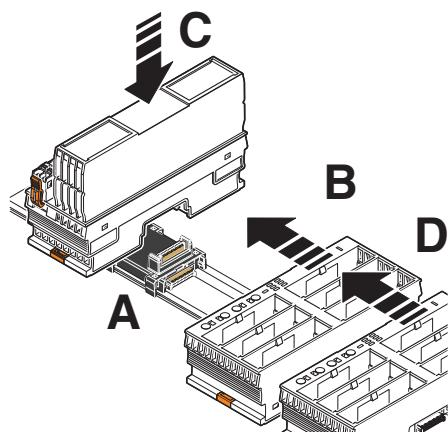

Figure 11-10 Connecting the backplane with the bus base module
- Place the backplane on the DIN rail (Figure 11-10, A).
- First backplane: push the connection of the backplane into the connection of the previous bus base module (Figure 11-10, B).
- Place the controller or bus coupler onto the bus base module (Figure 11-10, C). See Section “Bus base modules, controllers, and bus couplers” on page 63.
- Subsequent backplanes: push the backplanes together (Figure 11-10, D).